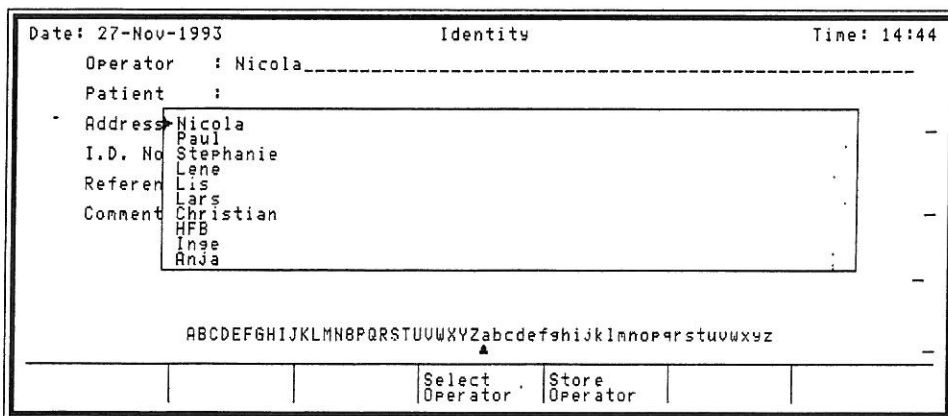

Fig. 4.3 Select Operator.
- Press **Softkey 4**, Select Operator, and a pop-up box appears (see Fig. 4.3). If any operator names have previously been stored, they will be listed in this pop-up box (maximum 10 names). **Softkey 5** now becomes active permitting new operator names to be stored in memory.